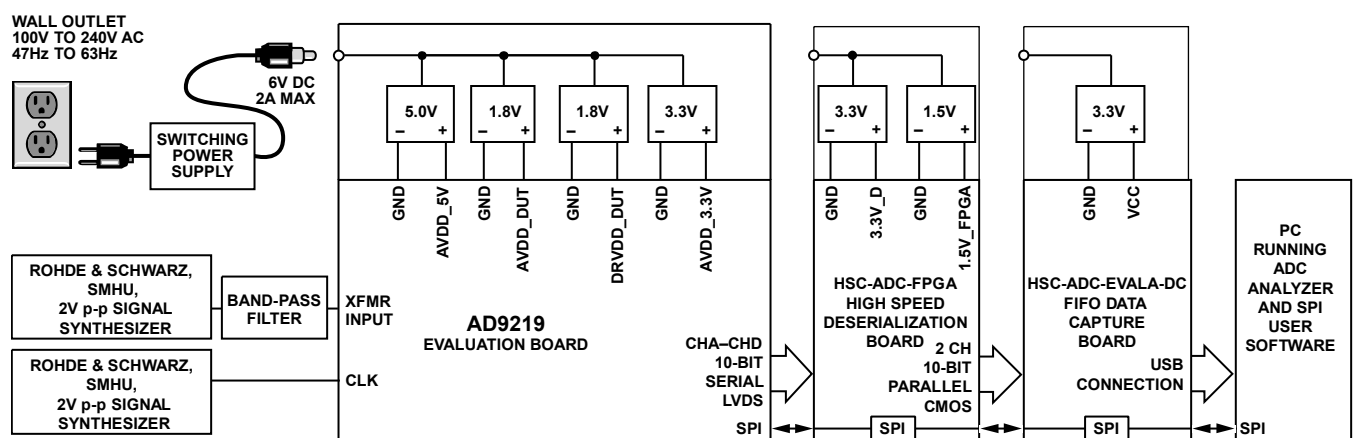
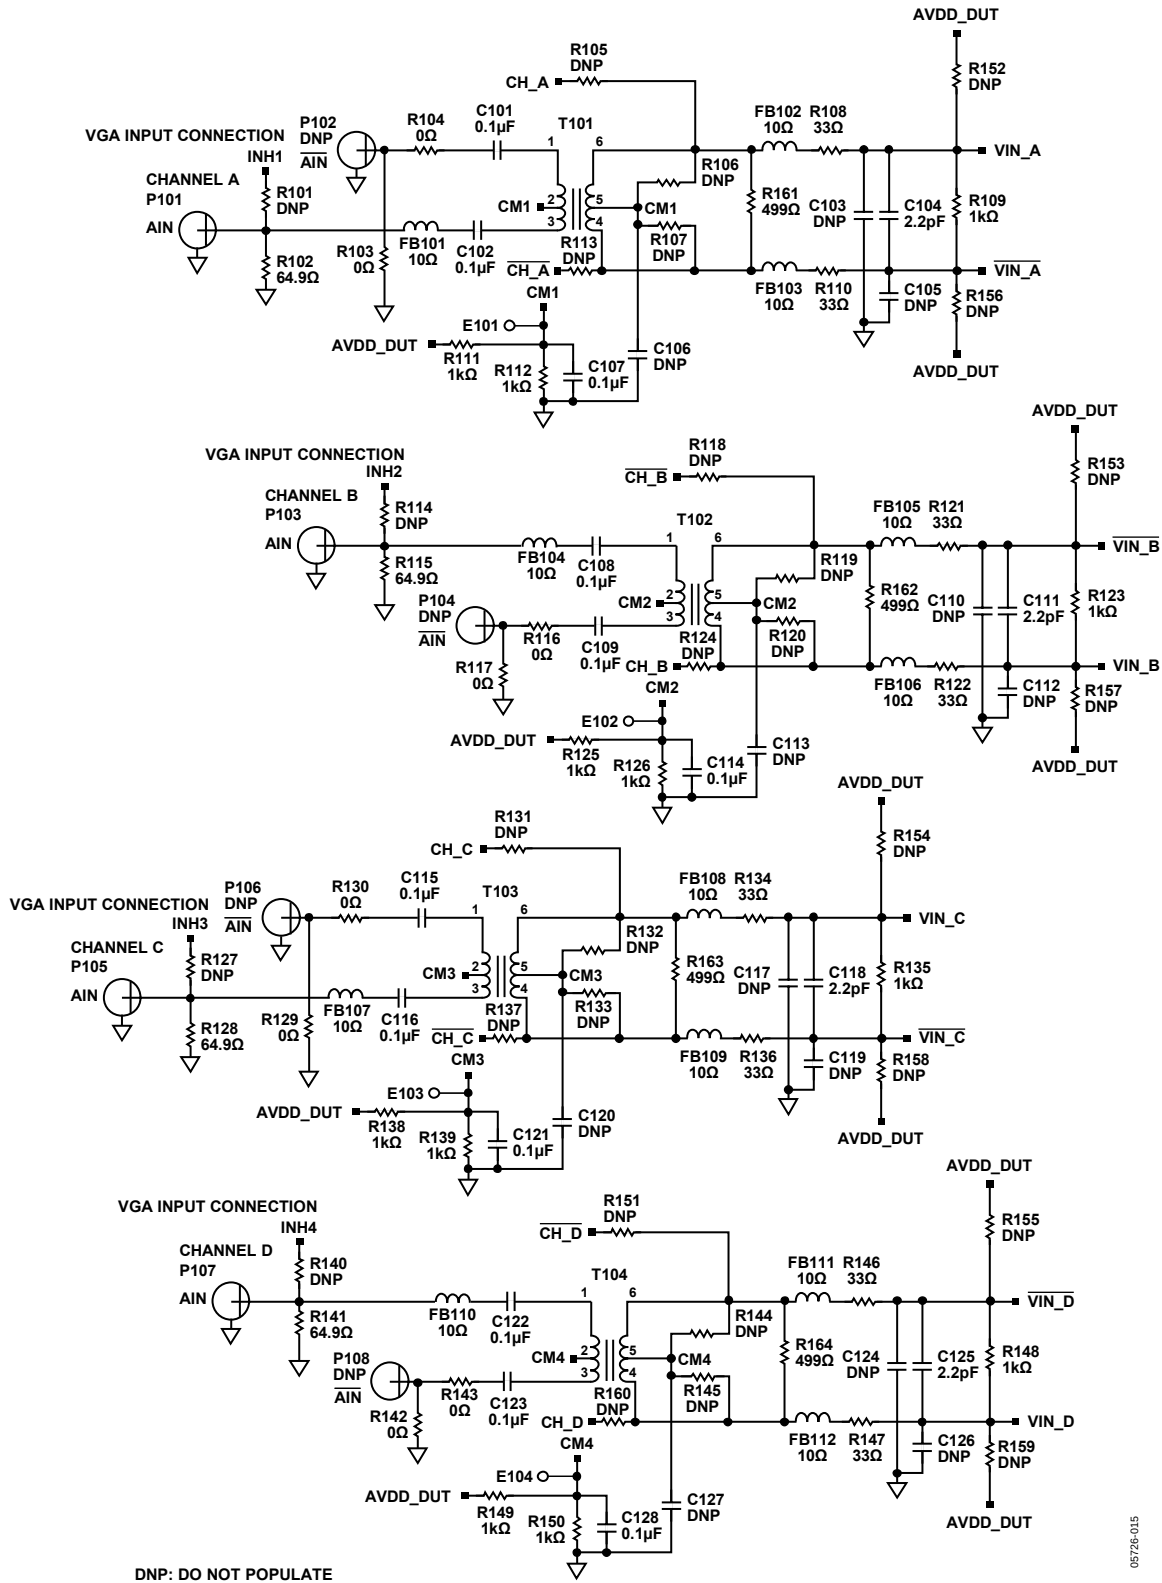
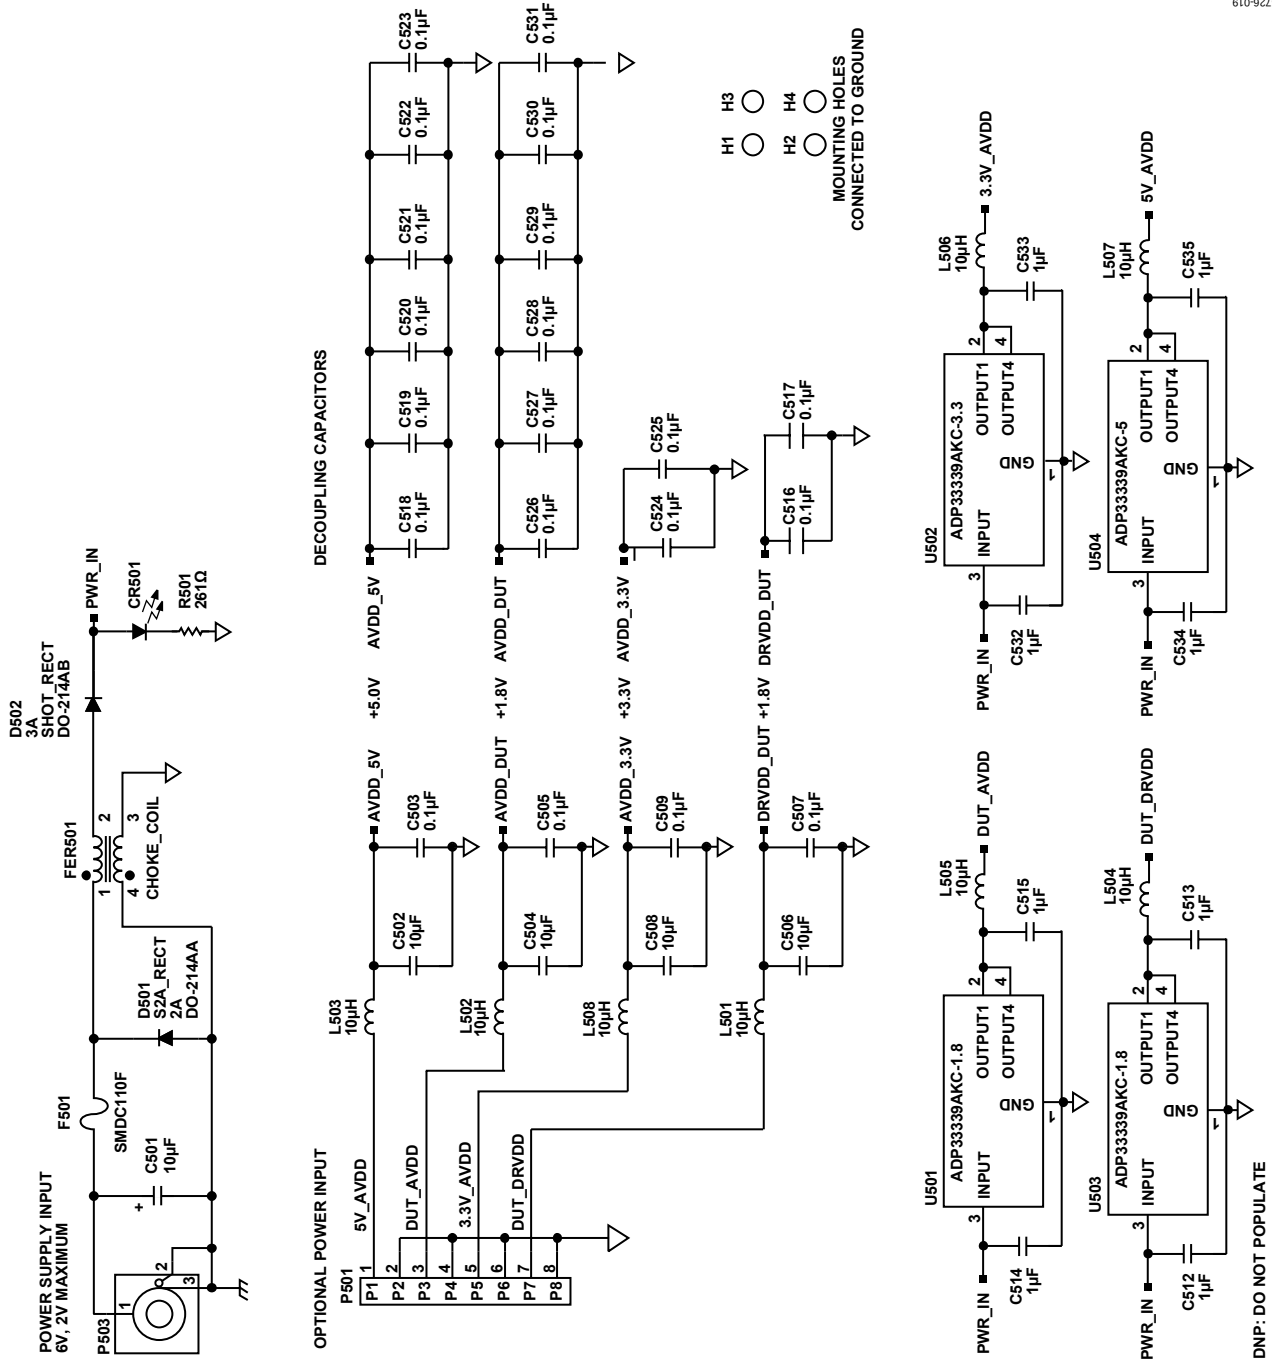
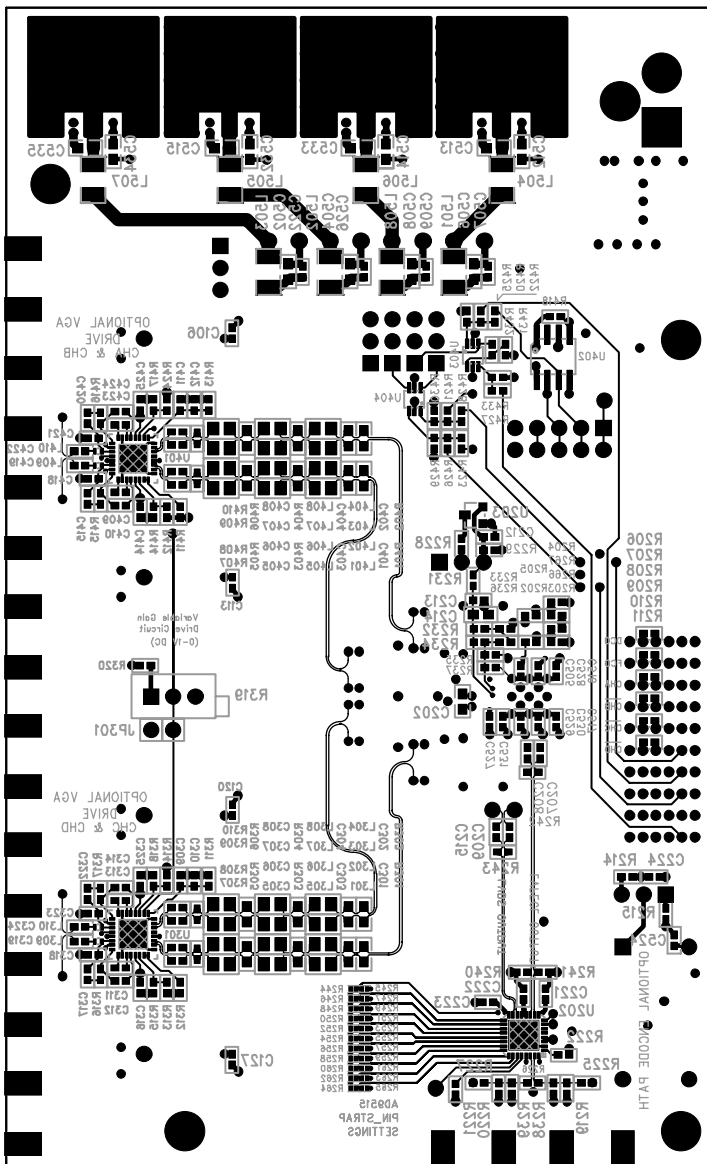

Figure 70. Evaluation Board Connection
Figure 72. Evaluation Board Schematic, DUT Analog Inputs
Figure 76. Evaluation Board Schematic, Power Supply Inputs
Figure 80. Evaluation Board Layout, Secondary Side (Mirrored Image)
The AD9219 evaluation board provides all of the support circuitry required to operate the ADC in its various modes and configurations. The converter can be driven differentially through a transformer (default) or through the AD8332 driver. The ADC can also be driven in a single-ended fashion. Separate power pins are provided to isolate the DUT from the AD8332 drive circuitry. Each input configuration can be selected by proper connection of various jumpers (see Figure 72 to Figure 76). Figure 70 shows the typical bench characterization setup used to evaluate the ac performance of the AD9219. It is critical that the signal sources used for the analog input and clock have very low phase noise (<1 ps rms jitter) to realize the optimum performance of the converter. Proper filtering of the analog input signal to remove harmonics and lower the integrated or broadband noise at the input is also necessary to achieve the specified noise performance.
See Figure 72 to Figure 80 for the complete schematics and layout diagrams that demonstrate the routing and grounding techniques that should be applied at the system level.
- **D+, D-:** If an alternative data capture method to the setup described in Figure 72 is used, optional receiver terminations, R206 to R211, can be installed next to the high speed back-plane connector.